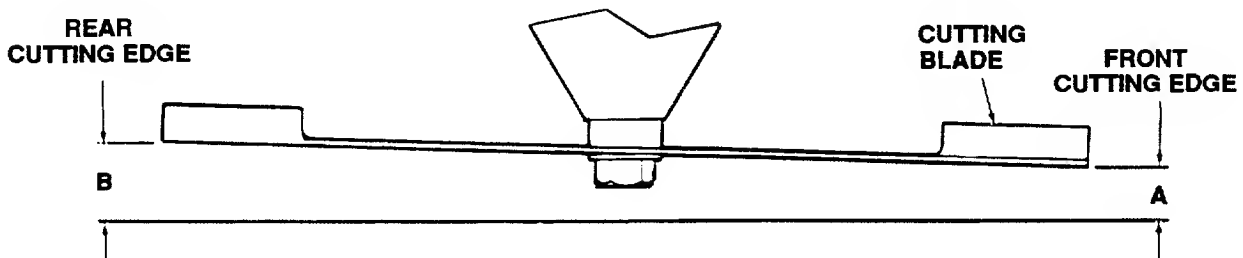

Figure 37
4. Refer to Figure 37. Measure and record the distance from the front cutting edge to the ground (measurement A), and from the rear cutting edge to the ground (measurement B), for each of the blades. The front edge of each blade (measurement A) should be lower than its back edge (measurement B) by 1/8 to 1/4 inch.